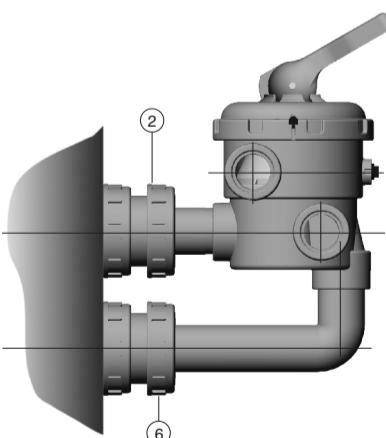

Fig. 4
- Place the flat rubber seal (3) into the valve port marked TOP. Screw the union (1) into the valve port having passed it through the coupling (2). Tighten the union (1) firmly to ensure a good watertight joint.
- Fit the selector valve to the upper filter outlet, ensuring that the o-ring (4) is in place between the filter and the valve assembly. Gently tighten the coupling (2) ensuring that the lower port of the valve remains perpendicular to the floor.
- Fit the elbow (5) with the coupling (6) and the seal (4). Do not use adhesive at this stage.
- Gently tighten the couplings (6) and (2) as shown in figure 4. Note the area of the elbow used for adhesive jointing. Unscrew coupling (6) and remove the elbow (5), clean the jointing area with solvent and apply the correct adhesive (ABS solvent cement). Re-assemble as shown in figure 4 and leave to dry for at least 2 hours before using.
- Viser légèrement l'écrou (6) et serrer fermement l'écrou (2) (figure 4) afin d'obtenir un parfait alignement de la vanne. Démonter l'écrou (6) et le coude (5) et nettoyer les endroits du collage avec du dissolvant. Appliquer la colle pour ABS sur le coude et sur la vanne. Positionner à nouveau selon figure 4 en serrant l'écrou (6) et laisser sécher 2 heures avant de mettre l'installation en fonctionnement.